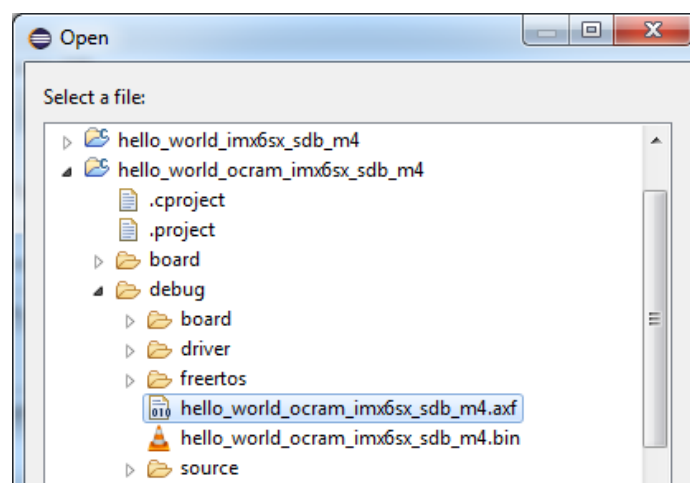

Figure 11 - Application to download
6. Click on the “Files” tab and then the “Workspace” button. Select the `axf` file in the “debug” folder as shown in Figure 11.